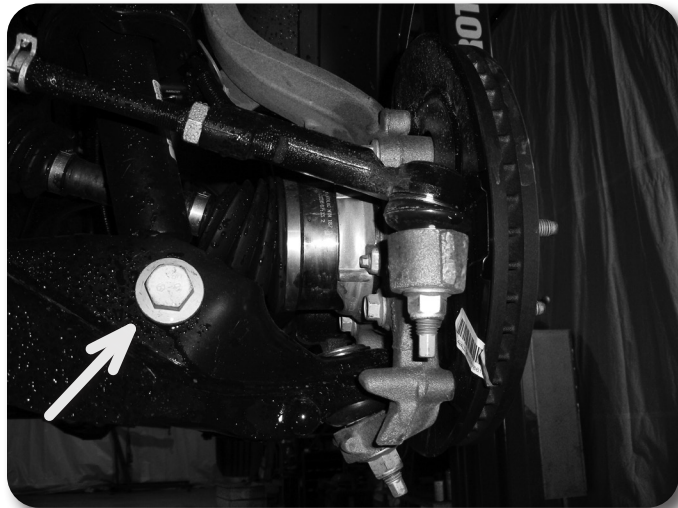

Figure 4
7. Support the lower control arm with a jack. Remove the nut from the strut-to-lower control arm mounting bolt **Figure 4**. Leave the bolt in place at this time. Retain the mounting nut.